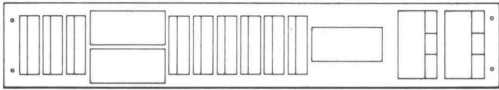

Fig. 39—J92614E Interface Unit
**2.40 J92614E Interface Unit**—Provides connection between Bell System traffic data register circuits and customer-provided monitoring equipment to furnish traffic usage data. Used with Bell System Automatic Call Distributing Systems (Types 2A and 3A). The apparatus is mounted on a 2- by 23-inch mounting plate and is intended for frame mounting. (See Fig. 39.)